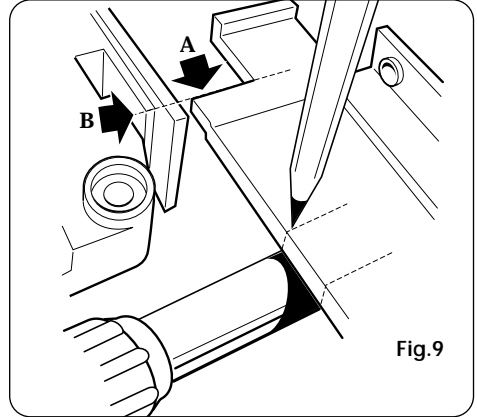
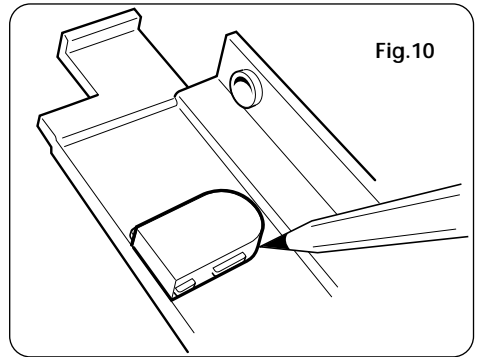

Fig.9
Fig.10
If a side entry is required, the side of the backplate trimplate will have to be cut out. With the trimplate at 90° to the bottom of the backplate (**fig.9**), line up the trimplate edge (A) with the shoulder (B) inside the backplate outer edge (these two faces butt when assembled). At the point where the trimplate touches the copper pipe mark the cut out position. Using an existing cut-out as a template will provide an accurate guide (**fig.10**).